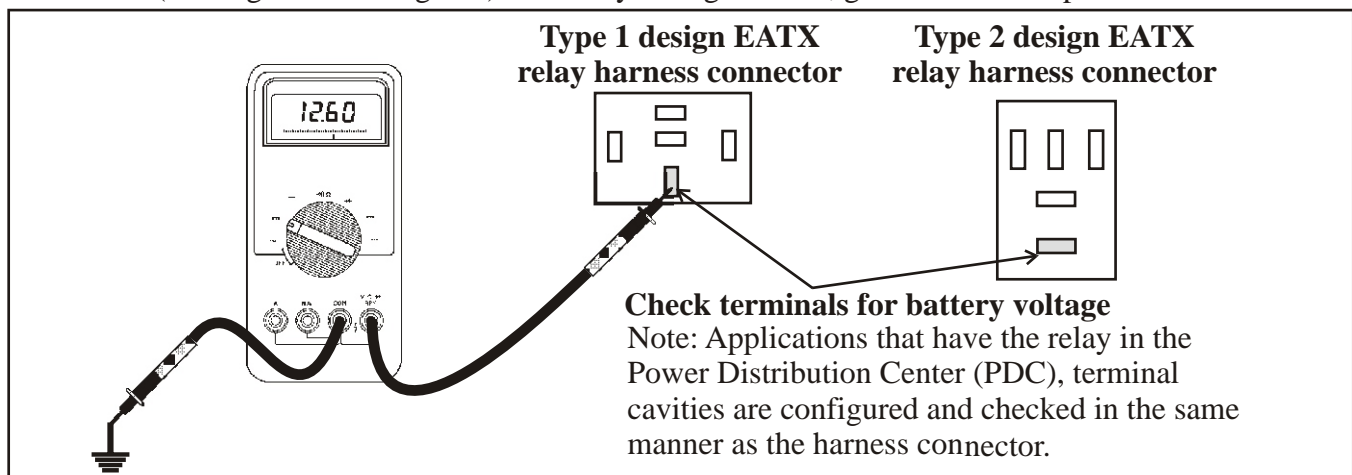

Figure 15
- Unplug the EATX relay. Using a volt meter set to DC volts, verify that direct battery feed is present in the connector as shown in Figure 15. If battery voltage is not seen, a severed wire, a blown fuse or fusible wire may need to be repaired (See Figures 8 through 10). If battery voltage is seen, go to the next step.